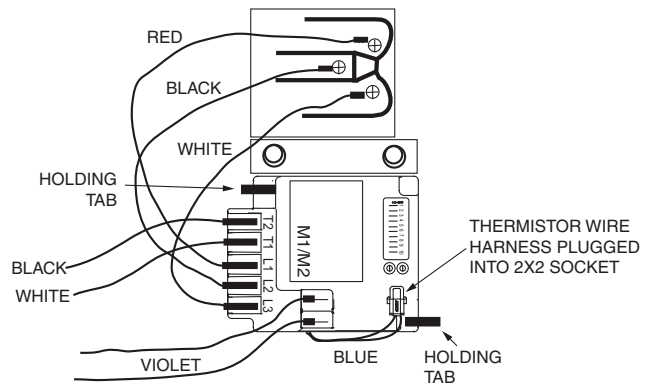

Fig. 39 — CoreSense Communication Module Mounting
3. Install the CoreSense module in the compressor terminal box as shown in Fig. 39, with the tabs holding the module in place. Route the thermistor wire harness as shown and plug the harness into the 2x2 socket on the CoreSense module.